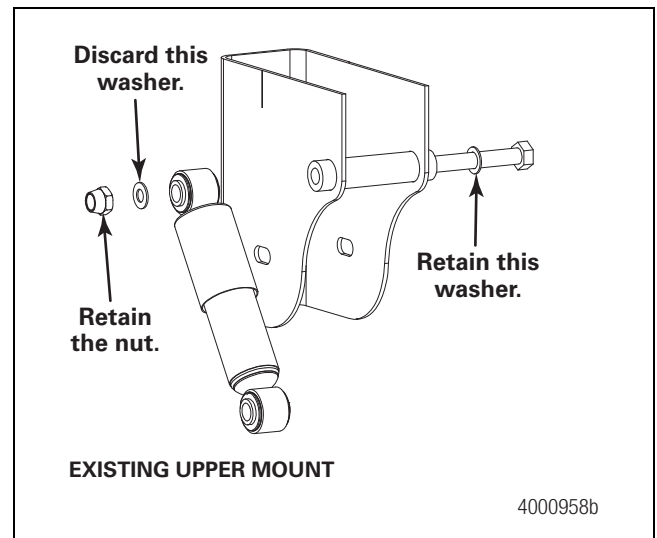

Figure 9.27
3. Remove the 7/8-inch (22.23 mm) nut and 7/8-inch x 1-3/4-inch O.D. (22.23 x 44.45 mm) washer from the UPPER shock absorber mounting. Discard the washer. Do not remove the existing washer on the shock absorber bolt. Figure 9.27.
- Remove the 7/8-inch (22.23 mm) nut and 7/8-inch x 1-3/4-inch O.D. (22.23 x 44.45 mm) washer from the UPPER shock absorber mounting. Discard the washer. Figure 9.27.